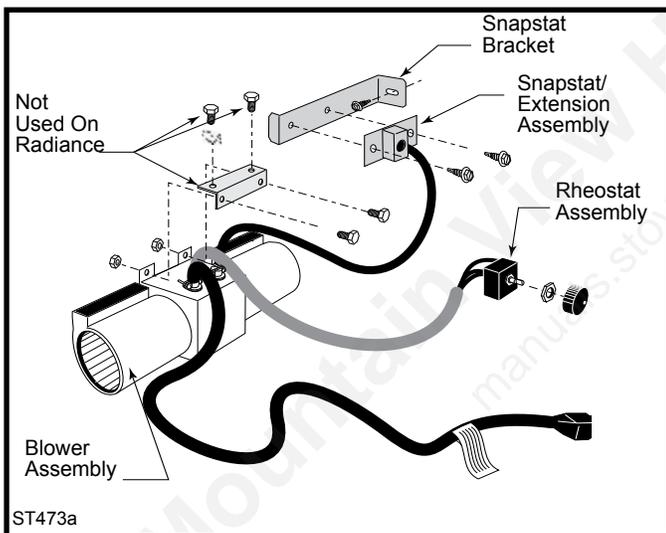

Fig. 15 Fan kit components.
1. The fan kit includes a Blower Assembly and a Rheostat Assembly, connected by a cable. (Fig. 15) The Blower Assembly mounts to the bottom rear of the stove, and the Rheostat mounts to the valve coverplate. The assembly includes a 'snapstat' which automatically turns the fan On (or Off) above (or below) approximately 109°. The Rheostat also provides a range of fan speed settings from Off (which overrides the snapstat function) to High. Unpack and inspect the Blower assembly. Confirm that the fan spins freely.